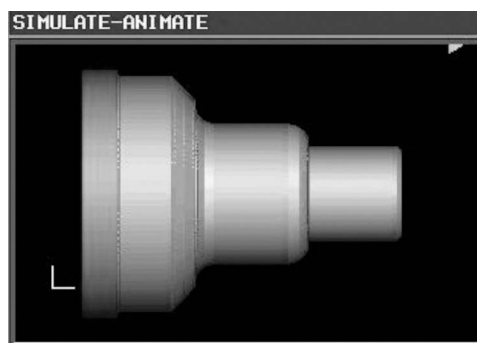

Figure 7-29 SIMULATE
29. SIMULATE the toolpath to confirm correctness. The results should resemble Figure 7-29